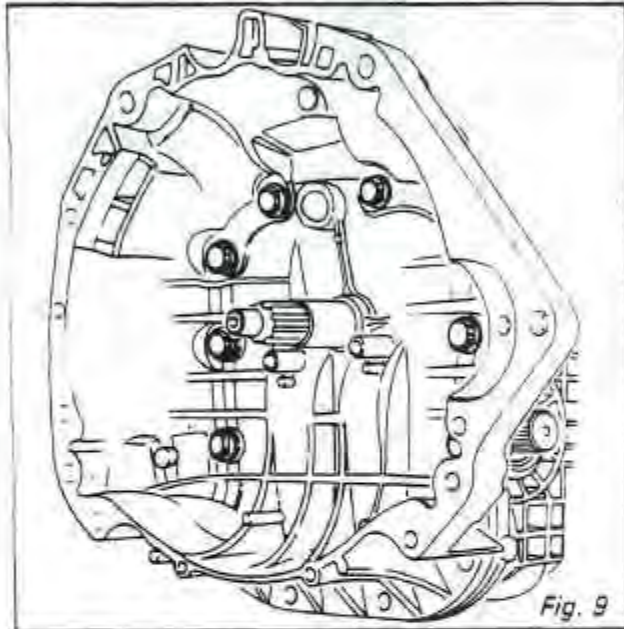

Fig. 9
1. Remove the clutch release bearing and clutch fork from the clutch housing. (Fig. 9)